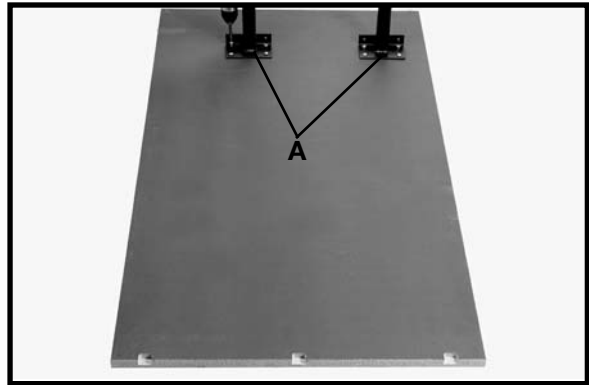

Fig. 5
3. Assemble the two table legs (A) Fig. 5 to the bottom of the table using eight #8x7/8" self tapping screws supplied. **NOTE:** Refer to Fig. 2 for the hole location for the 36-902 30" Unifence.